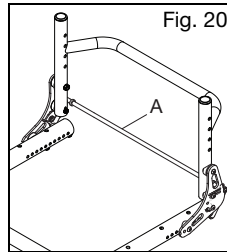
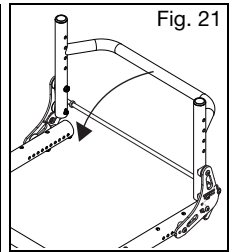

Fig. 20
Fig. 21
WARNING: Do not lift the wheelchair by the release bar (Fig. 20:A). Lifting the wheelchair by the release bar may cause parts to fail which could cause a fall resulting in serious injury or death.
1. Lift the back release bar (Fig. 20:A), located behind the back frame, to release the latch and fold downwards towards the seat frame (Fig. 21). To latch back into place, pull the back release bar outward and the back will release and can be pushed into the upright position. The backrest will automatically latch onto the side frame.